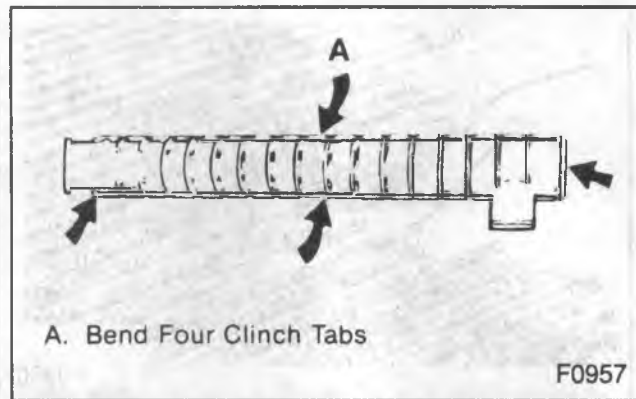

Figure 38—Sealing the Tank to the Radiator Core
9. Position the tank and gasket to the header, clamp it in place and secure it by bending four cinch tabs as shown in figure 38.